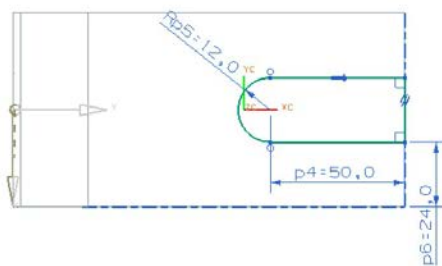

Figure 5-55 Sketch created for the third feature
2. Draw the sketch of the feature and add the required constraints and dimensions to it, as shown in Figure 5-55.